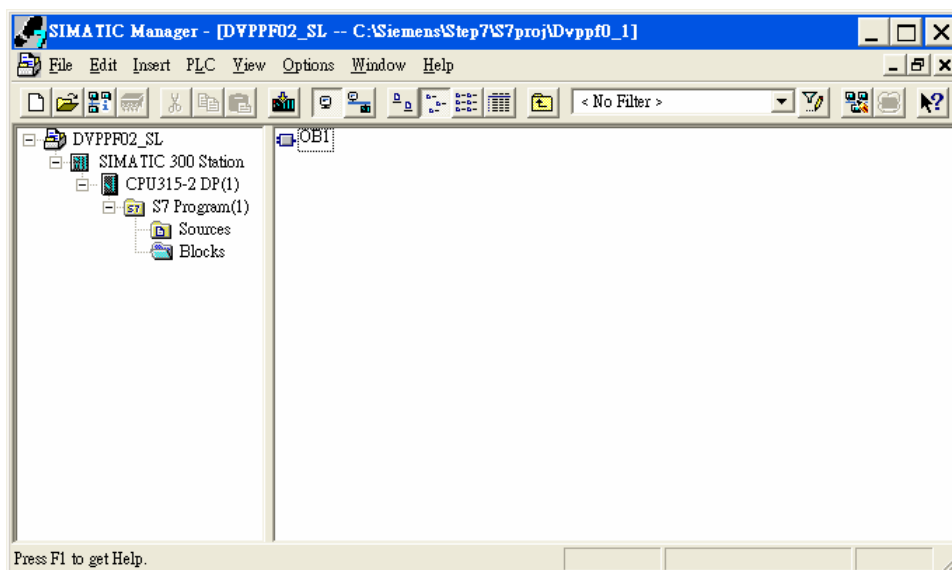

Figure 10-8
7. A new window for the newly created project then appears, as Figure 10-8.